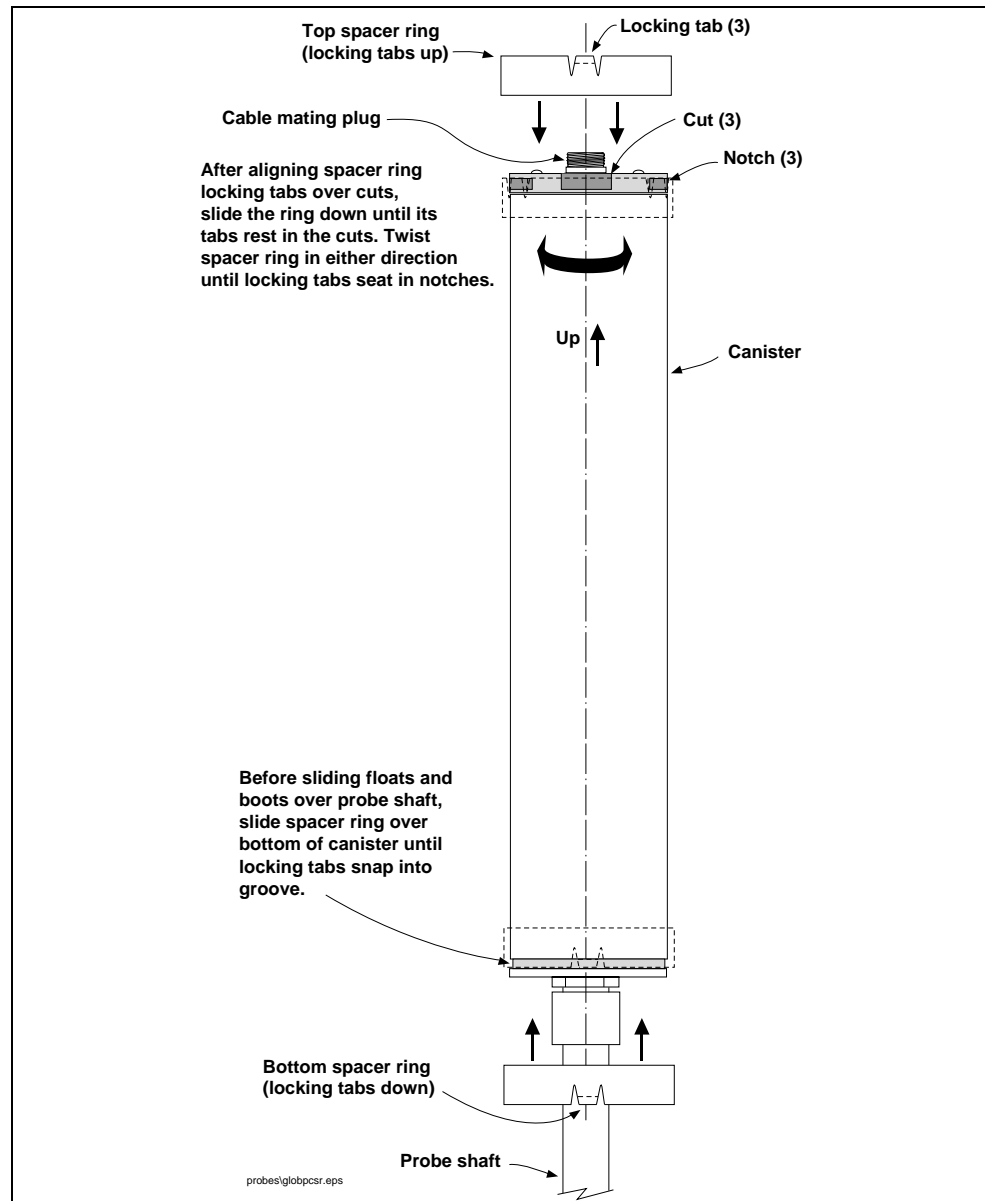

Figure 5. Installing Probe Canister Spacer Rings
2. Following the instructions in Figure 5, obtain and install the spacer rings on the probe canister.
3. Attach the connector end of the probe cable from the installation kit [Figure 1 on page 5] to the mating plug on top of the probe canister [Figure 5 on page 11]. Be sure the connector is attached securely by hand tightening the knurled locking ring.